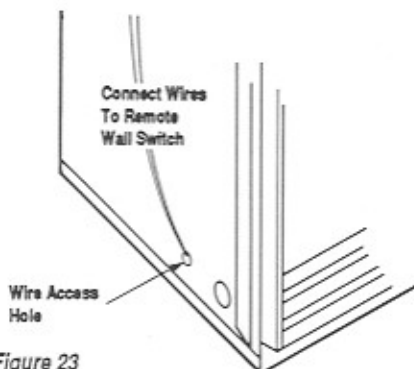

Figure 23
Step 1. Install the remote wall switch in a convenient location and route the 18 gage millivolt wire through access hole behind gas line (Figure 23). At least 12" of wire is required in the control compartment.